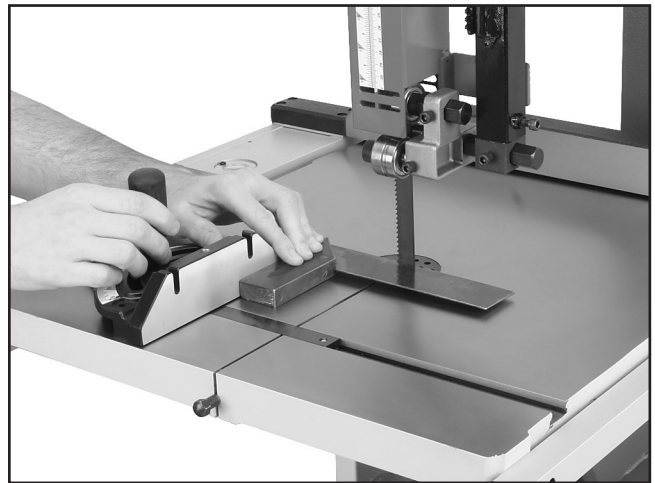

Figure 32. Squaring miter gauge to blade.
1. Place a machinist's square on the table so one edge is evenly touching the blade face, as shown in **Figure 32**, and the other edge is touching the miter gauge.